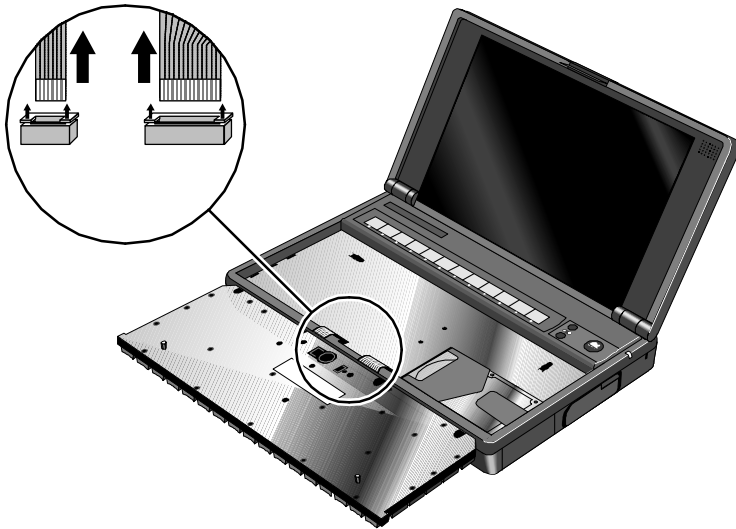

Figure 30 - Keyboard Flex Cables
5. Lastly, remove the keyboard flex cables from the zero insertion force slots. If available, use the provided Keyboard Flex Cable Removal Tool (part number 5182-7482) to assist in “opening” the zero insertion force slots. Otherwise, a pick may be used to *gently* lift up the top of the slots. See Figure 30.